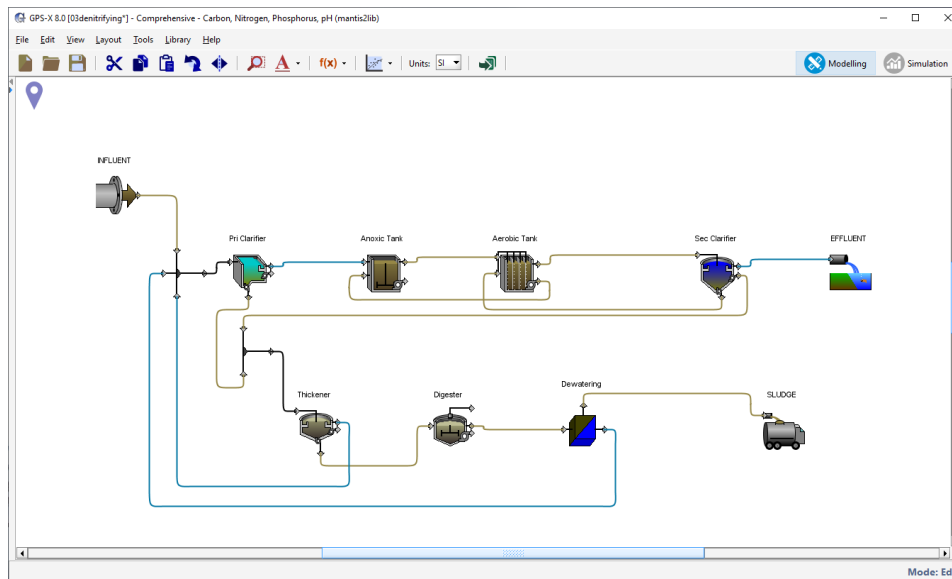

Figure 2-6 - Zoom to Plant Scaling
1. **Drag out an area on the *Locator* window.** The drag area should correspond to that portion of the total area you would like to view and will be represented by a red rectangle as shown in **Figure 2-6**. When you drag out a rectangle, the drawing board *scale factor* changes.